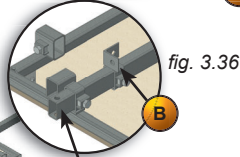

fig. 3.36
- 5- Push in the outriggers until they leave the outrigger pockets at the other end (fig. 3.36).
- E** 16- Slide two deck extension support pockets on the outrigger (fig. 3.36). Do not tighten the bolts on the deck support pockets yet.